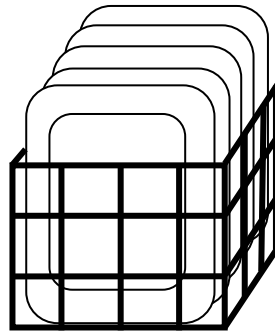

Figure 4
4. If implements are treatment plate, make sure to arrange items as shown in Figure 4.